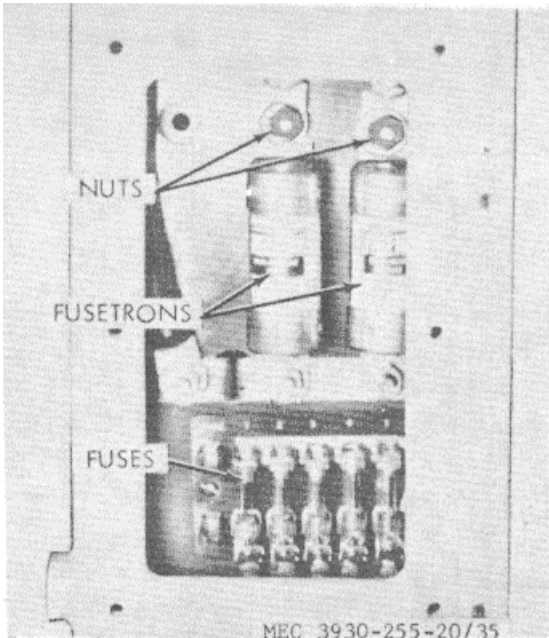

Figure 35. Fusetrons and fuses.
- (1) Remove hood (para 50a(1)).
- (2) Remove screws and cover plate at top right end of electrical equipment box (fig. 4), to expose fusetrons and fuses (fig. 35).
- (3) Remove nuts at each end of fusetron to be replaced, and remove fusetron.